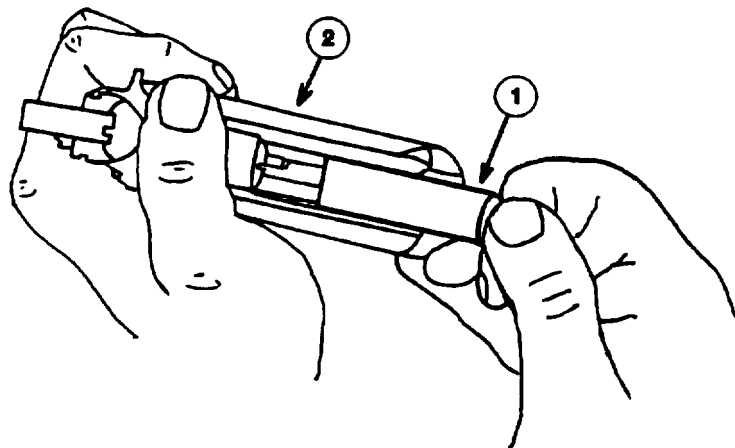

Figure 6-23. Removing Mainspring Housing
(8) Separate mainspring housing group (1), Figure 6-23, from the receiver assembly (2).
(4) Inspect mainspring housing (1), Figure 6-23, for burrs on mating surfaces, spring tension, and wear. If unserviceable, replace mainspring housing group.
(10) Partially install mainspring housing group (1), Figure 6-23, to hold sear spring in position.